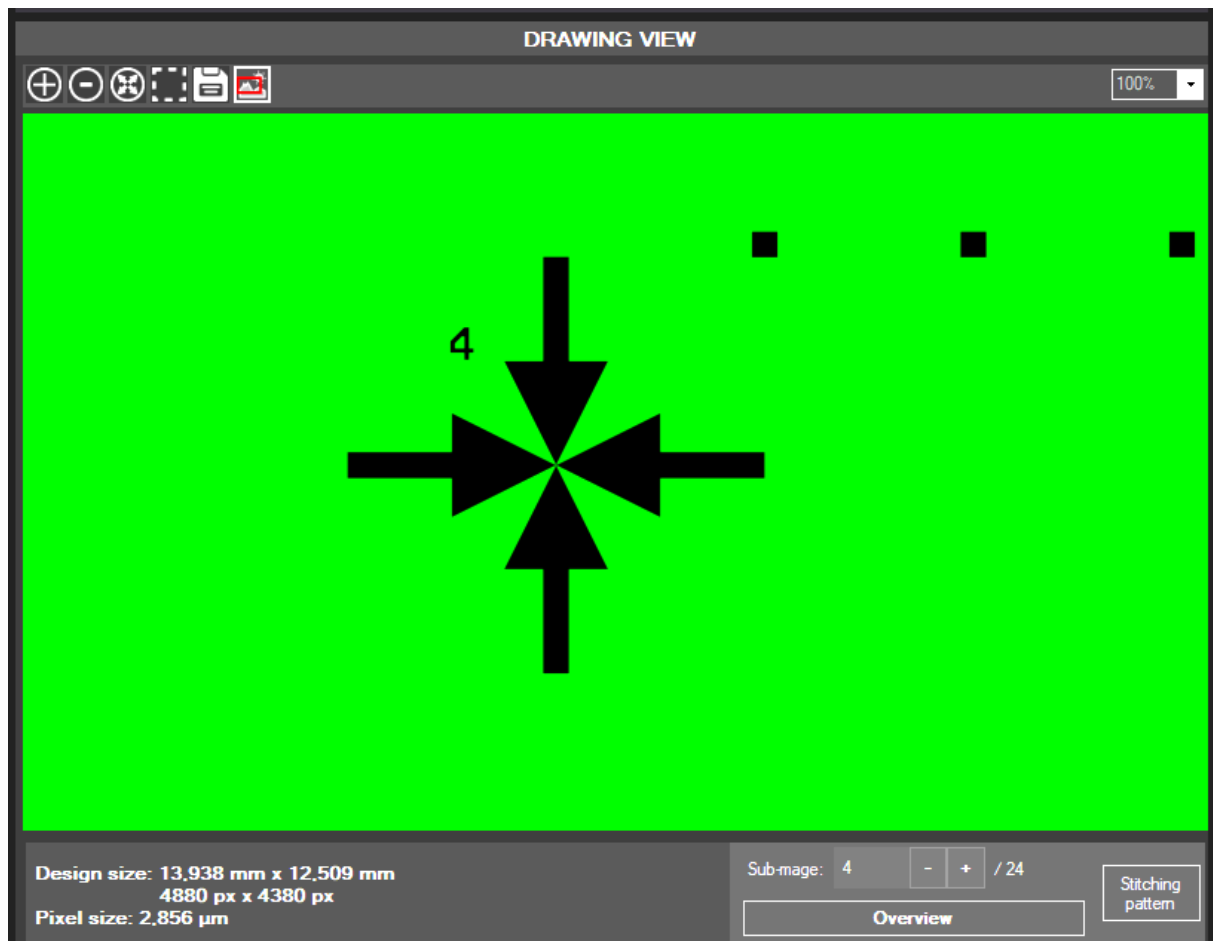

Figure 56 - Semi-auto alignment: defining optional point P2
- [Optional step] Selection of point P2 (Figure 52d): selecting a second point of interest in stitched drawing is useful to improve the substrate rotation adjustment and then the overall quality of the alignment. To do so, click on **(Overlay pos. P2)**. Select a point in the drawing viewer on sub-image different from the one of point P1 as illustrated in Figure 56